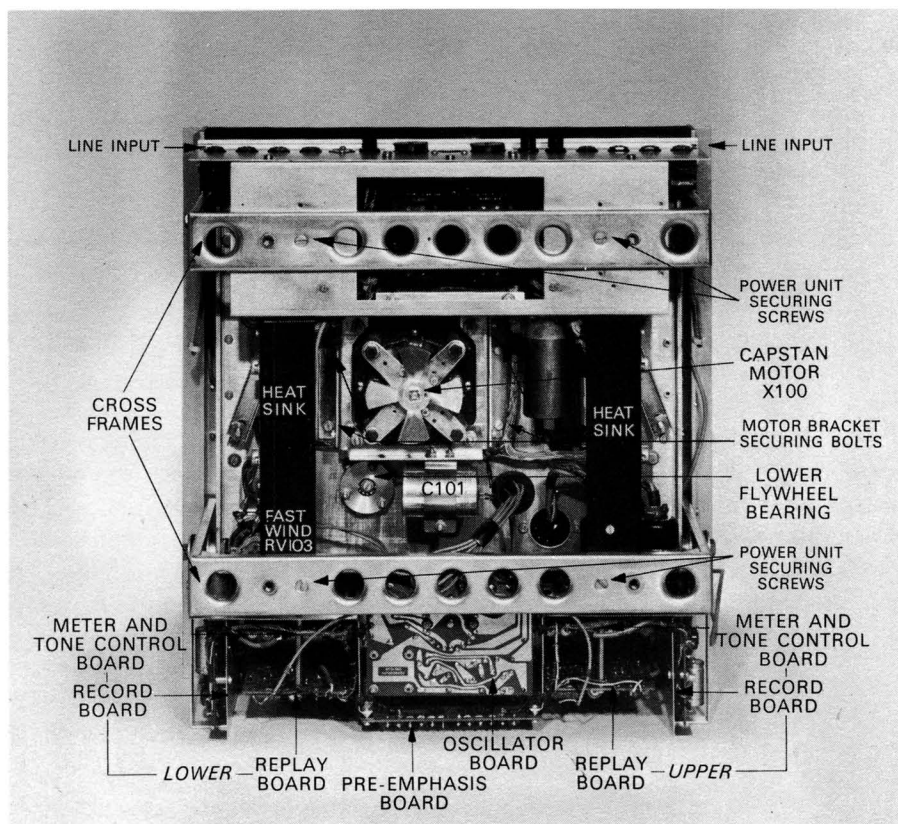

FIG. 10. RECORDER CHASSIS—REAR VIEW
Removal/replacement of oscillator board and components (Fig. 10)
- (vi) Disconnect *Line Input* jack socket (two on stereo models) by removing jack assembly from chassis (Fig. 10), taking care to retain the spacing washers.
- (viii) Remove four countersunk securing screws from the cross frames (Fig. 10).
Removal/replacement of capstan motor assembly (Fig. 10)
- (v) Remove the four bolts holding the capstan motor bracket to the tape deck chassis (see Fig. 10).
- (ii) Remove the screw from the lower end of the flywheel spindle (Fig. 10).